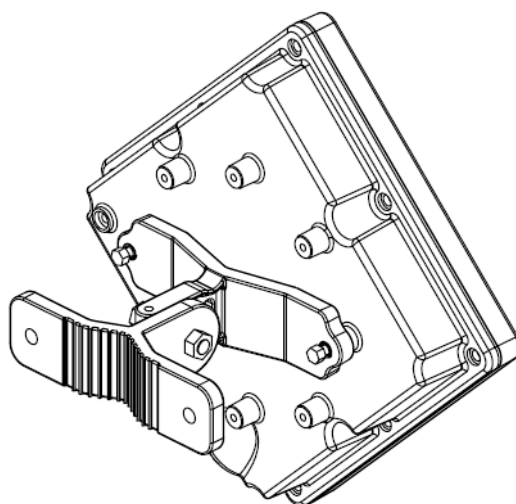

Figure 7: Clamp Assembled on Bracket
- 4 Attach the clamp (item 2) to the bracket such that the M8 bolt is threaded through it and tighten using an M8 nut (item 10). Make sure the bracket is secured tightly. The assembled clamp is shown in Figure 7.